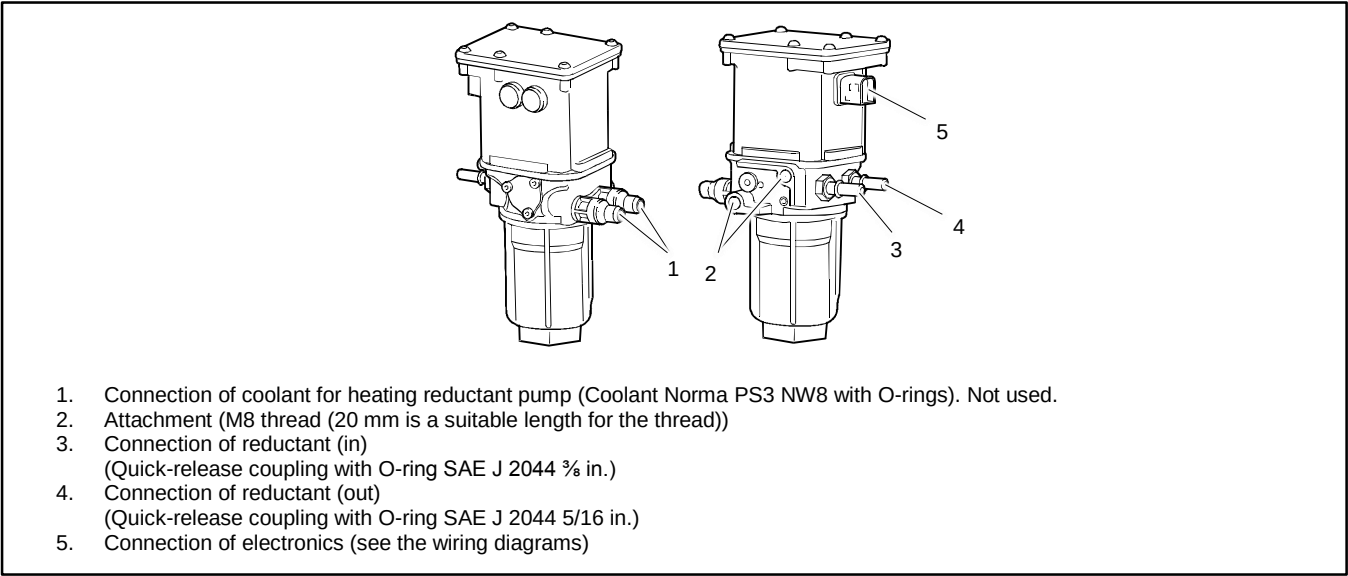

Figure 48 DEF Feed Pump
The DEF feed pump’s quick-release couplings in **Figure 48** (items 3 and 4) are replaceable. See **Figure 49**.